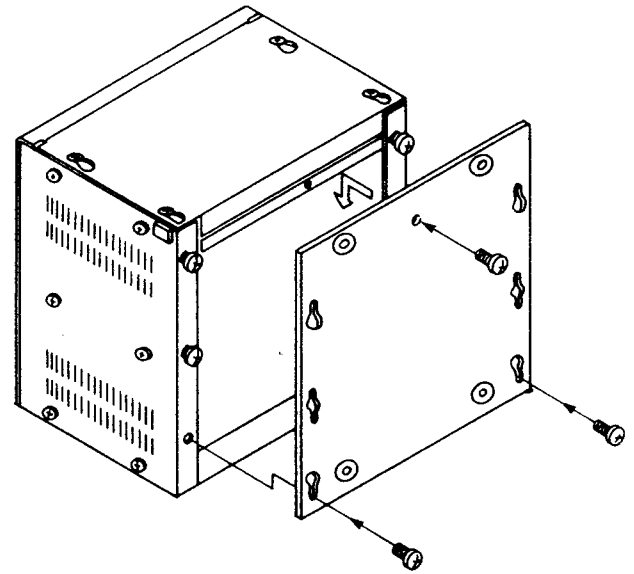

FIGURE 7—MKSU
- c) Rotate the back cover 180° and realign it so the two mounting holes project above the MKSU (Figure 7).